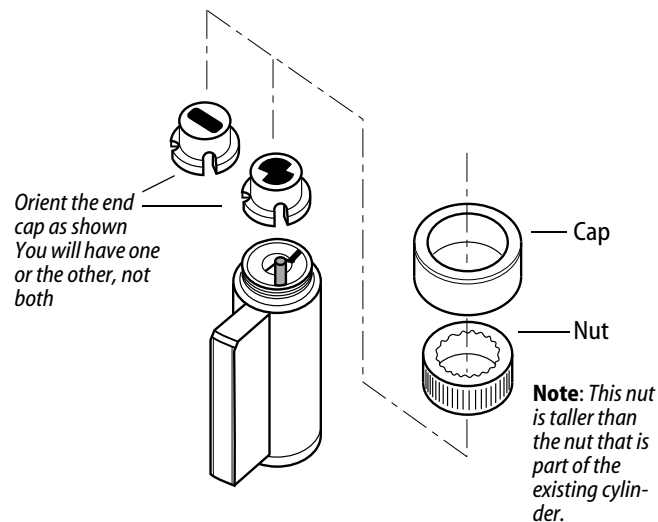

Figure 10 Assembling the key-in-knob cylinder
- 4 Discard the nut that is removed from the cylinder and use the nut that comes with the cap and end caps. **You must use the correct nut for the cylinder to operate properly.** See Figure 10.
- 5 Assemble the key-in-knob cylinder as shown in Figure 10.